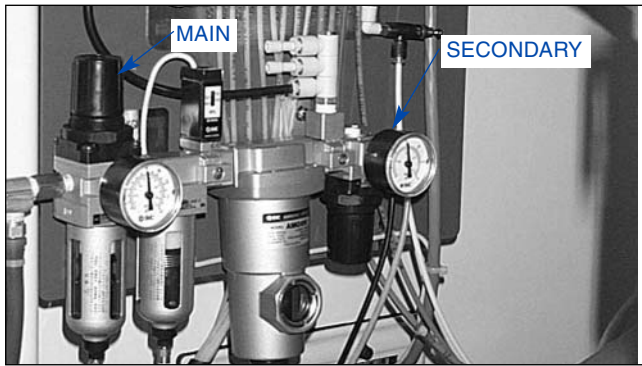

FIGURE 1-14, Airline Regulators
- Turn ON Air Supply (see Figure 1-14), set Main Regulator to 5,52 Bar (80 psi), and set Secondary Regulator to 1 Bar (14.5 psi).